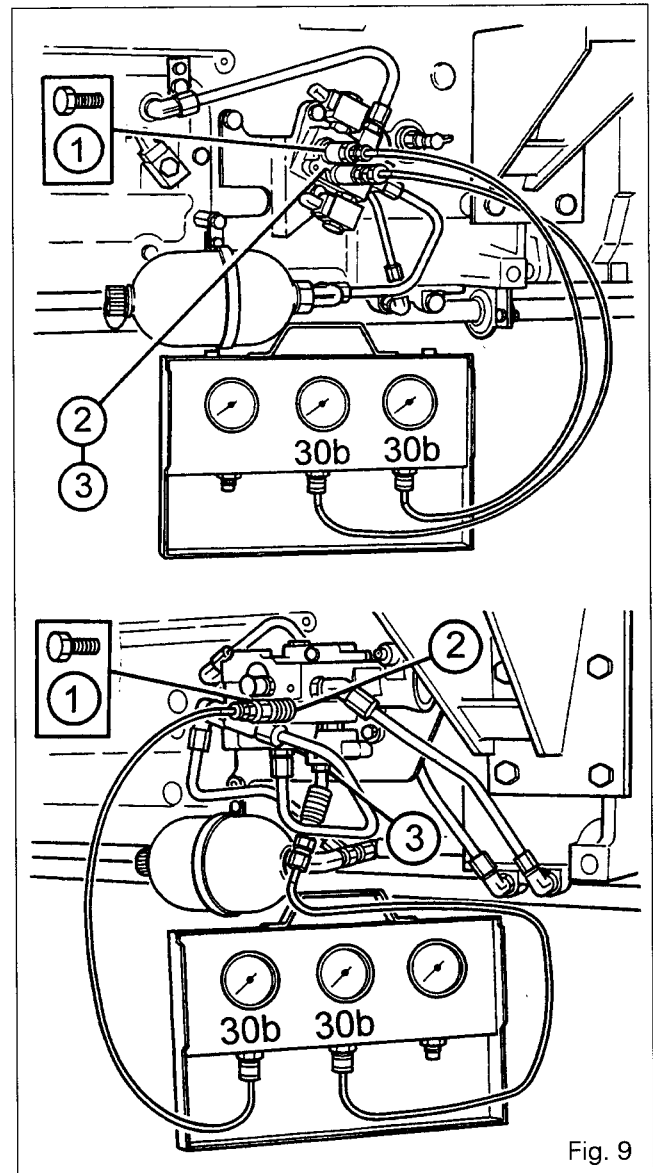

Fig. 9
Screw in two male connectors **(2) - (3)**, ref. 3384387M1, and couple them with the diagnostic connectors connected to pressures gauges with a capacity of about 30 bar (Fig. 9).